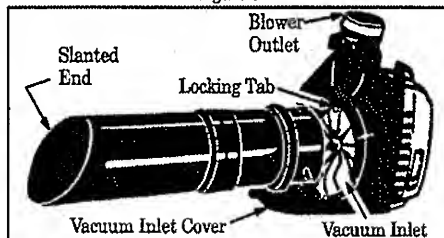

Figure 6
3. Hold open vacuum inlet cover and align the grooves on the upper vacuum tube with the locking tabs inside the vacuum inlet. Figure 6. Insert the upper vacuum into the vacuum inlet; twist the upper vacuum tube clockwise until parts snap together.
4. Assemble the vacuum tubes by aligning the slanted end of the lower vacuum tube with the blower outlet. Figure 6. Push the two tubes together until the lower vacuum tube bottoms out inside the upper vacuum tube [about 3" (7.5 cm)]. Figure 6.
**NOTE:** Observe that the bottom end of the lower vacuum tube is cut at an angle. Make sure that the slanted end of the vacuum tube is aligned with the blower outlet as shown in Figure 6.